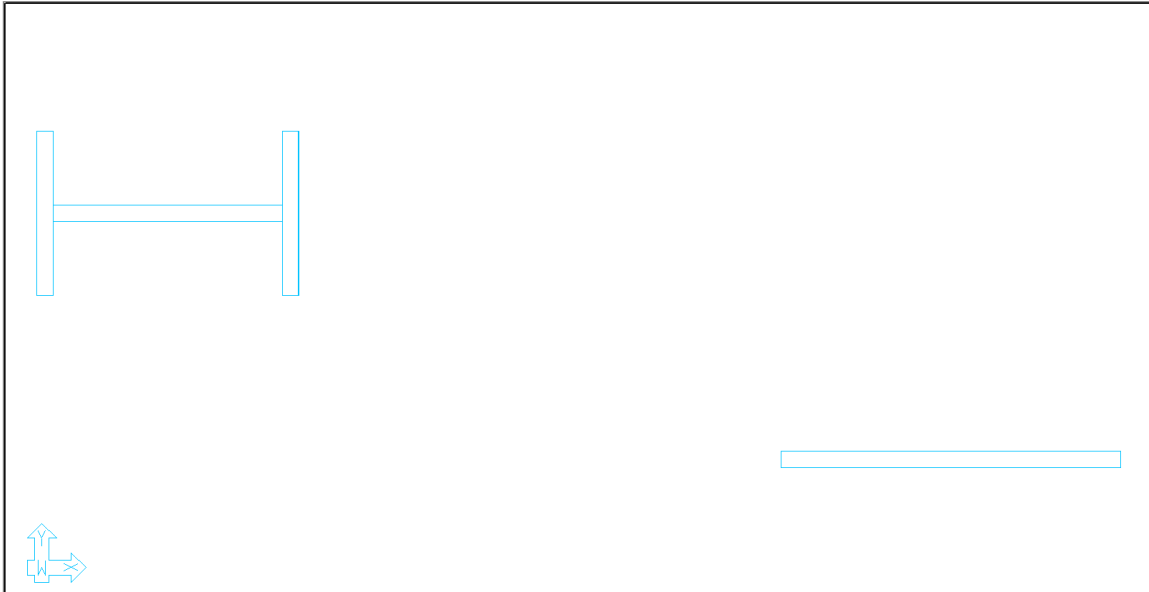

FIGURE 5-18
- Select the other wall and click **Delete** on your keyboard. After doing so we should have our lower walls input as shown in **FIGURE 5-18**.